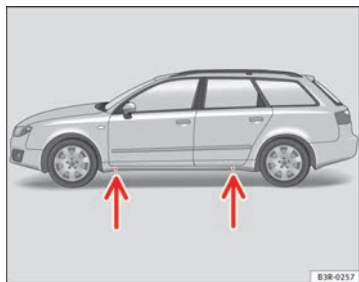

Fig. 198 Changing a wheel: Jack position points
- Position the vehicle jack under the door sill at the **jacking point** closest to the wheel being changed ⇒ Fig. 198 -arrows-.
Recesses at the front and rear of the door sills mark the jacking points ⇒ Fig. 198 -arrows-. There is only *one* jacking point for each wheel. Do not fit the jack anywhere else.